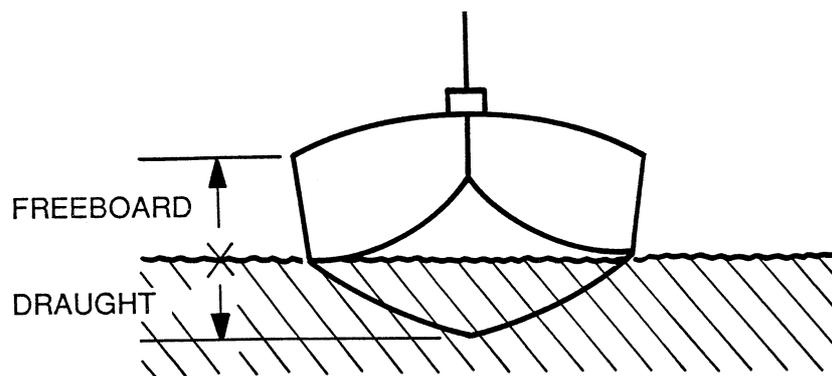

Figure 5:2—Freeboard and Draught
- (6) **Foredeck**—A small deck at the front of the hull.
- (7) **Freeboard**—Height between water line and the gunwale. (See Figure 5:2).
- (8) **Gunwale**—(pronounced gunnel) The continuous strip around the top of the hull.
- (9) **Hull**—The main body or shell of the boat.
- (10) **Keel**—The member joining the two halves of the hull bottom usually along the hull centre line.
- (11) **Keelson**—A reinforcing member to protect the keel and assist in directional stability.
- (12) **Rowlocks**—The brackets which are used as pivot points between the hull and the oars.
- (13) **Stem**—The rising or vertical section at the front of the boat where the hull sides meet to form the bow.
- (14) **Thwarts**—The seats built into the hull. Originally those that run across the hull. These often provide floatation and hull structural integrity.
- (15) **Transom**—The flat back section of the boat joining the two hull sides to form the stern upon which an outboard motor may be mounted.
- (16) **Tuck**—The section (often timber) attached to the centre of the transom where the motor is clamped to the hull. It reduces slippage and wear when the motor is fitted.